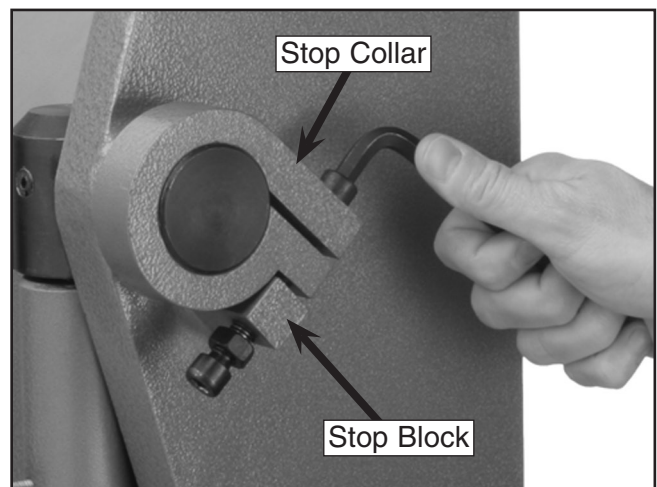

Figure 20. Setting adjustable stop.
3. Tighten the stop collar cap screw, as shown in Figure 20.